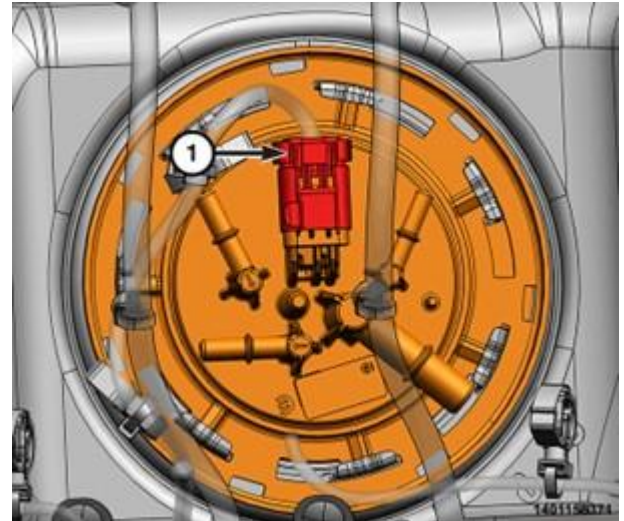

Figure 79 – Pump Module Connector
- 142. Disconnect the fuel pump module wire harness connector (1) (Figure 79).